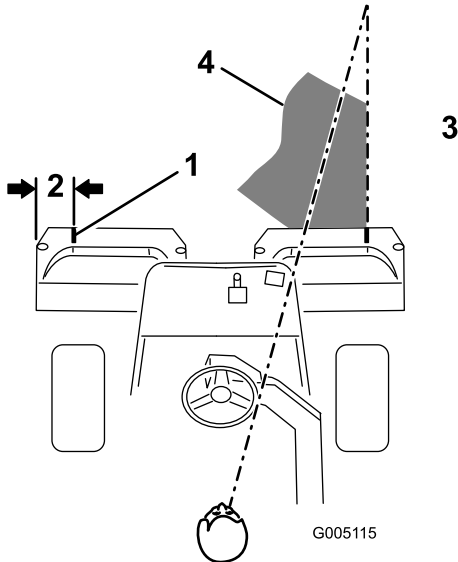

Figure 10
2. Either place a strip of white tape or paint a line onto each basket paralleling the outer edge of each basket (Figure 10).